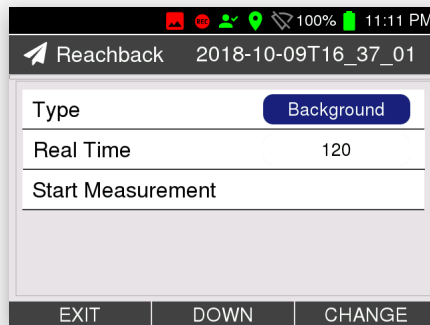

Figure 87: Settings for a new measurement
2. Choose the type of measurement (background, known source, or unknown source, Fig. 87, p. 77).